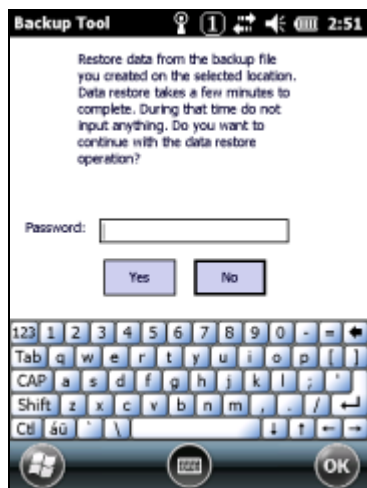

Figure 4-8
3. If you choose **Yes** button in Figure 4.8, **Restore in Progress** dialogue screen appears indicating the initiation of restoration. While this screen is being appeared, do not operate any key on the keyboard or on the right and left sides.